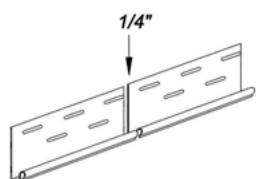

Figure 1.
- Leave 1/4" space in between pieces of starter strip (Fig.1).